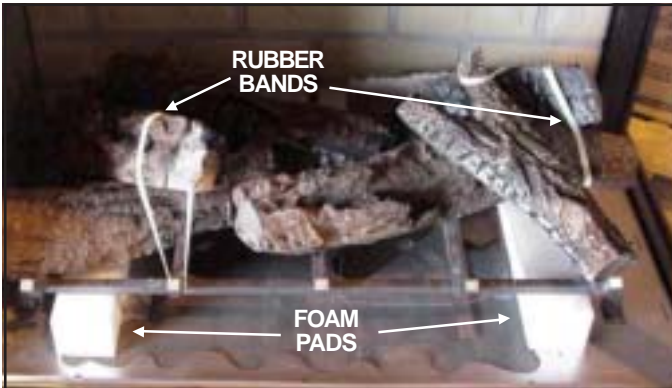

Figure 47.
- Remove the rubber bands from the log set (see Figure 47).